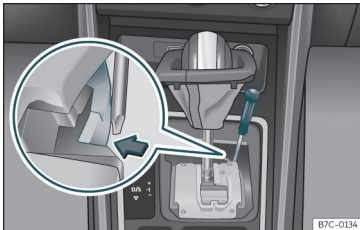

Fig. 46 Selector lever: manual release from position P.
- Using a screwdriver, press and hold the yellow unlocking tab sideways **Fig. 46**.